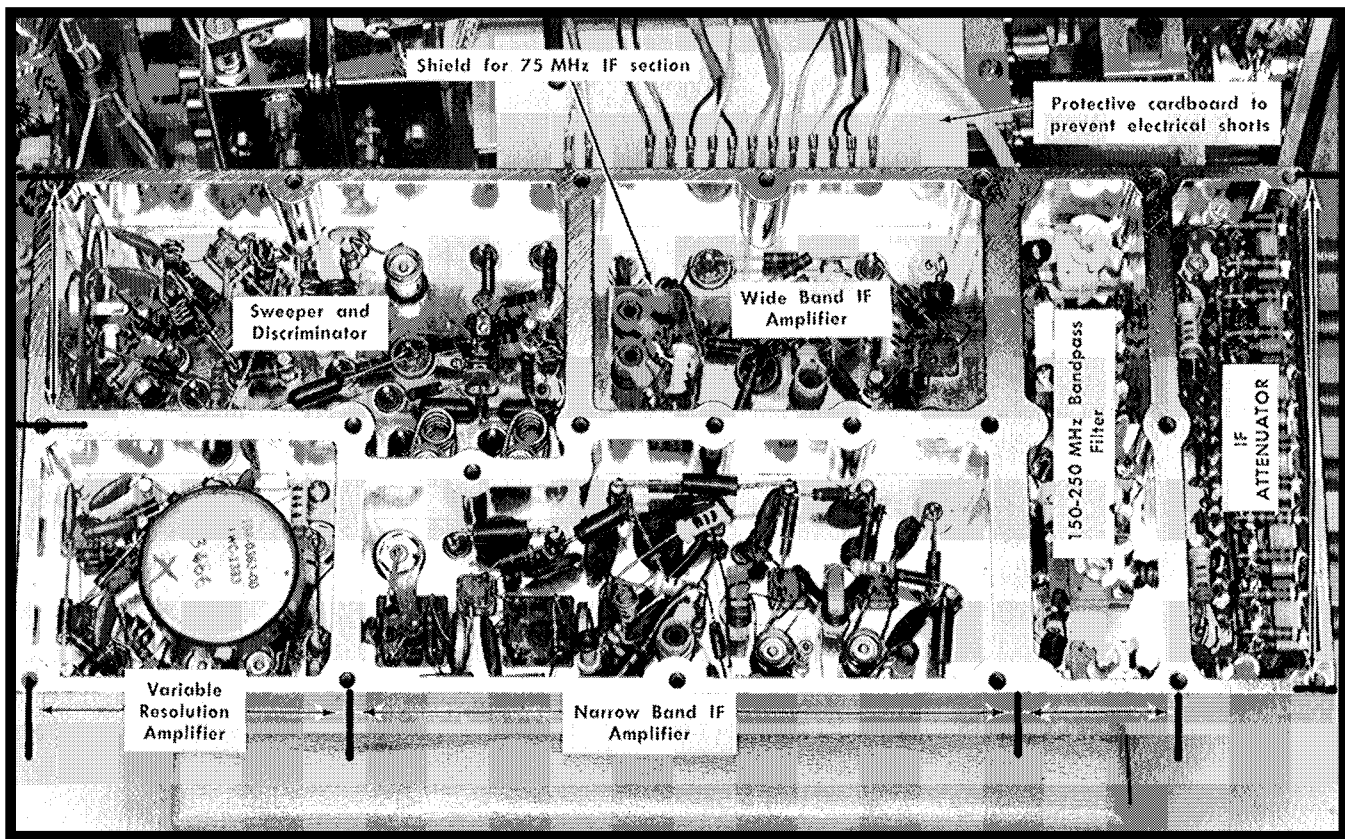

Fig. 4-11. Honeycomb assembly open and ready for voltage and waveform measurements.
3. Turn the Type 491 on its side (see Fig. 4-11). Remove the nylon rocker arm from the DISPERSION RANGE switch SW365.
5. Turn the honeycomb assembly over and place it upside down on a block or box as shown in Fig. 4-11. CAUTION: Do not bend or damage the pin connectors.
7. If power is to be applied, make certain all connections are correct to the square pin connector and the connectors are free of short circuit conditions. The DISPERSION RANGE switch must be manually switched on the honeycomb assembly when changing DISPERSION RANGE positions. Fig. 4-11 shows the circuit sections in each cell of the honeycomb assembly.